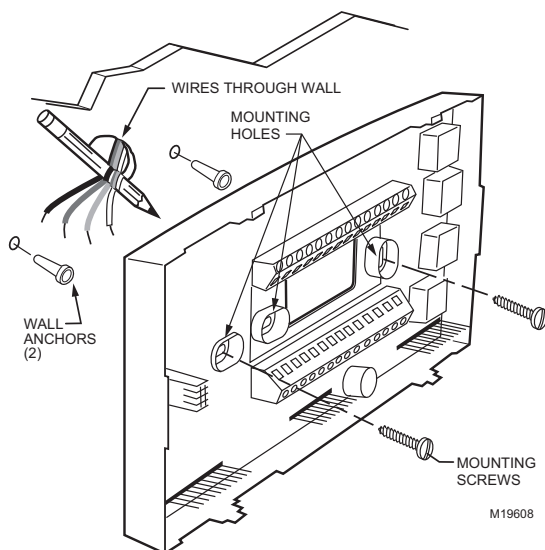

Fig. 6. Mounting the Subbase.
2. Use a pencil to mark the mounting holes. (Refer to Fig. 6.)